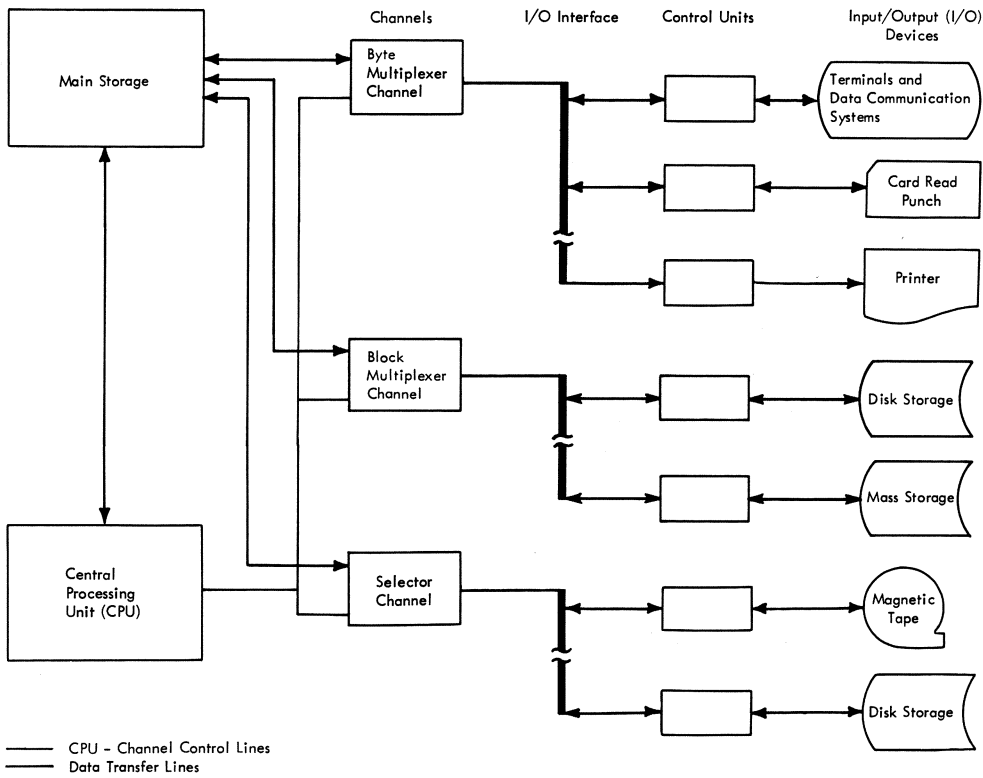

Figure 1-1. Organization of a Representative System/370 Model
The references to and physical grouping of these logical parts may vary. In some System/370 models, the central processing unit (CPU) is referred to as a *central processor* (CP) and main storage is referred to as *processor storage* or *central storage*. In addition, the CPU and main storage may be packaged together as a *processing unit*; or the CPU, main storage, and channels may be packaged together as a *processor* or *processor unit*. When a processor or processor unit is grouped with the appropriate operator facilities and power and cooling units, it is referred to as a *processor complex*. For convenience in discussion, a processor complex is referred to as a *model*. Figure 1-1 shows the logical organization of a representative System/370 model. System/370 offers: